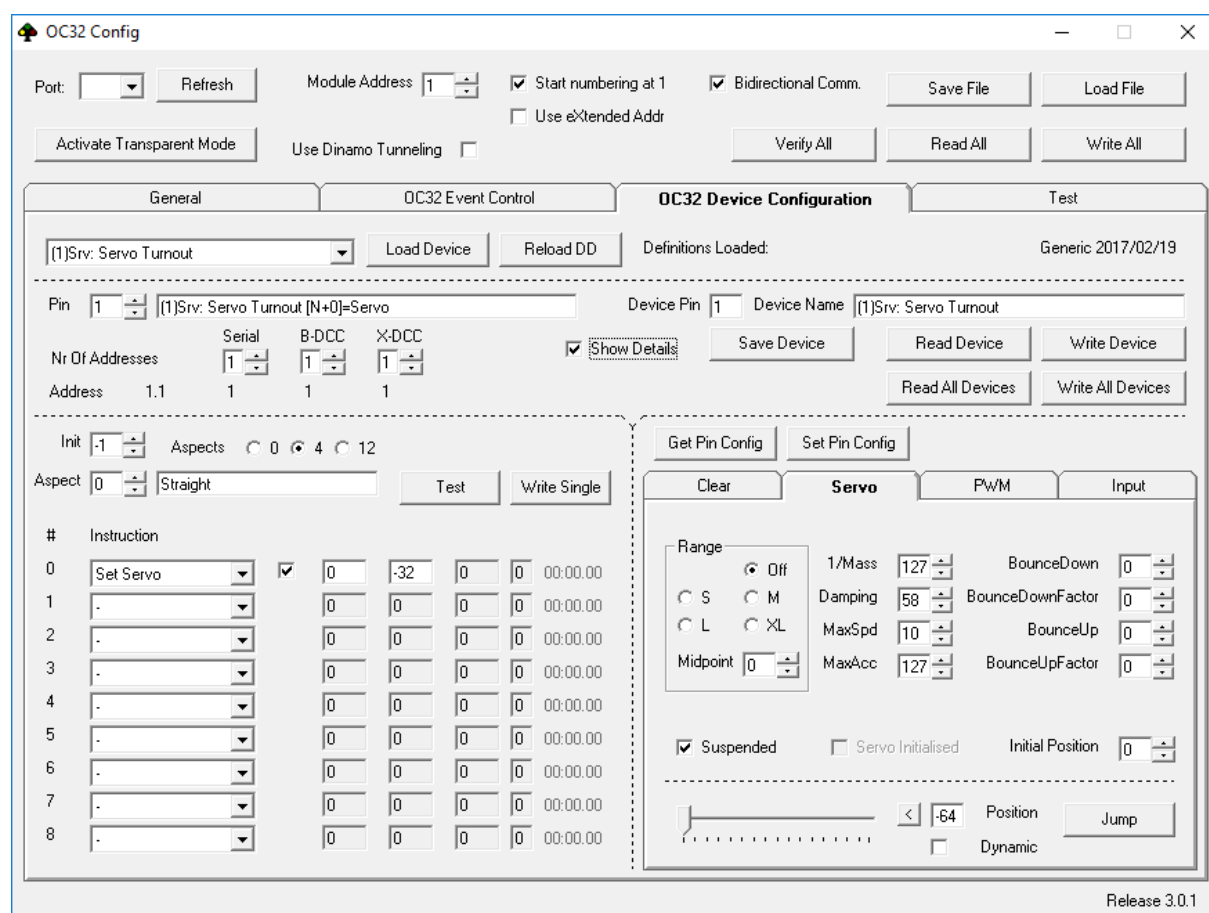

Fig 8: OC32Config: Finetuning a Device Definition
What is described below is how changes can be made. As an example we use the device definition "(1) Misc: Servo Turnout", the control of a turnout by a servomotor. We load the device definition to pin 1 as described in paragraph 2.5.2. Then activate the checkbox "Show Details". The screen will change and look similar to the one in figure 8.